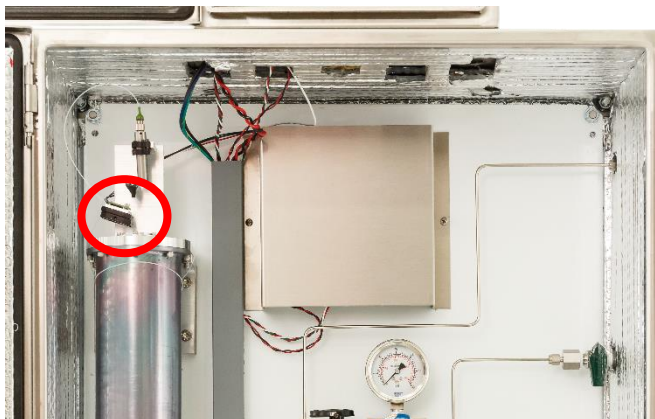

Figure 63: Location of the Detector
8. Locate the detector shown in Figure 63.